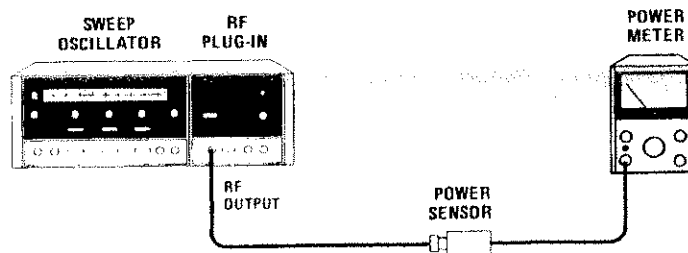

Figure 4-10. Power Level Attenuator Accuracy Test Setup
- c. Set power meter range switch to +20 dBm and connect power sensor to RF OUTPUT as shown in Figure 4-10. ZERO power meter and set RF Plug-in RF OFF-ON switch to ON.